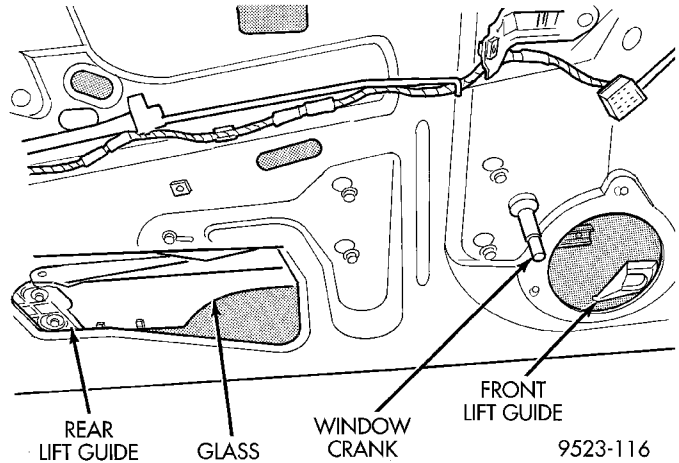
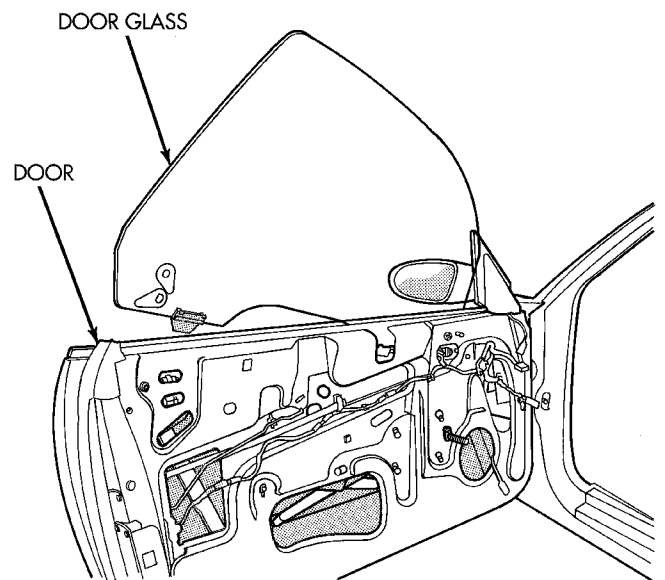

Fig. 14 Guide Bolts
Fig. 16 Door Glass
- (6) Remove bolts holding rear guide plate to door glass (Fig. 14).
- (7) Separate rear guide plate from door glass.
- (8) Lift door glass upward and out of opening at top of door (Fig. 16).
- (9) Remove front guide plate from door glass.